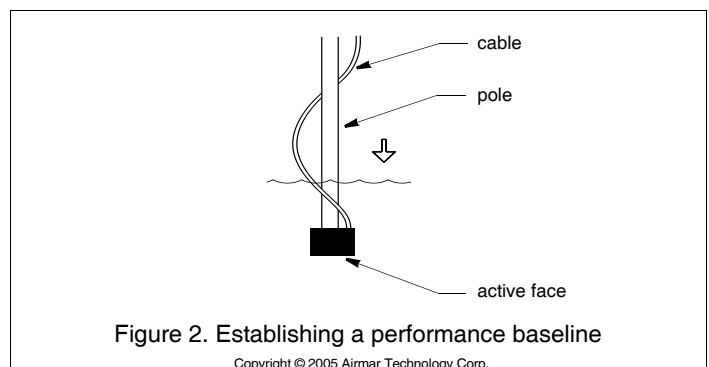

Figure 2. Establishing a performance baseline
3. Tape the transducer to a pole, cable side up. *Do not tape over the active face.* Hold the transducer over the side of the boat with the active face fully submerged and parallel to the water surface (Figure 2).